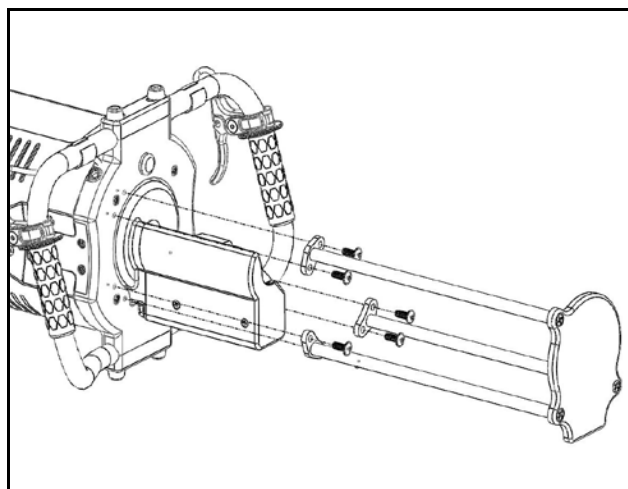

Figure 17 – Safety Cage
1. Remove the six (6) screws attaching the Safety Cage Assembly to the Rear Handle Plate (see Figure 17) using the 5/32 Hex Driver. Remove the safety cage.
4. Reinstall the Safety Cage Assembly and the six (6) bolts attaching it to the Rear Handle Plate (see Figure 17) using the 5/32 hex driver. Use medium strength thread locking compound on all screws. Start all six bolts before tightening them in any order.